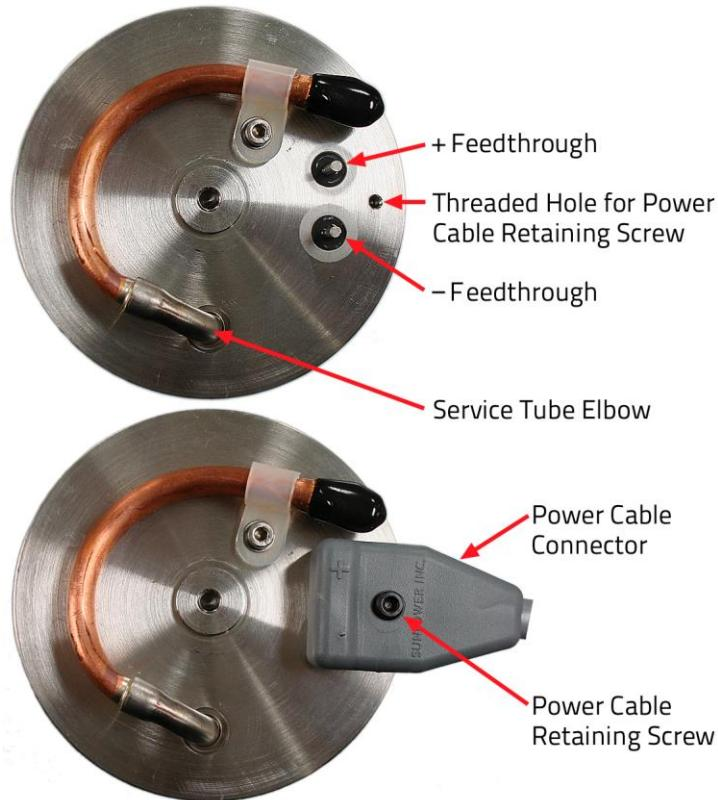

Figure 3-11. Attaching the Cooler Power Cable to the Pressure Vessel
2. Align the two holes in the molded plastic connector on the one end of the cooler power cable with the two feed-through pins on the end of the GT's pressure vessel and press down to connect the connector (figure 3-11).